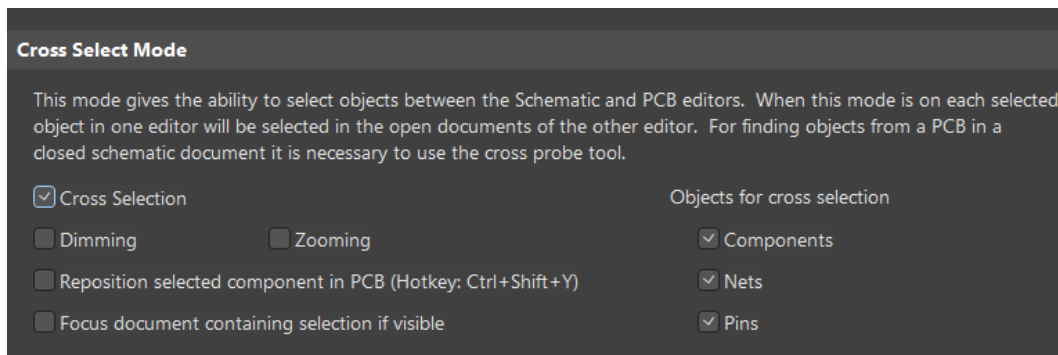

Figure 12. Cross Select option
37. From the *System branch*, on the *Navigation* page, verify that the **Cross Selection** checkbox is enabled under *Cross Select Mode*, Figure 12. Click **OK** to exit the *Preferences*.